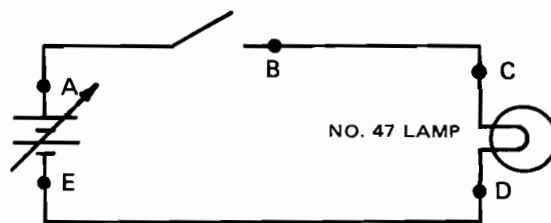

Fig. 4-1-1
1. Select components needed to construct a dc lamp circuit as in Fig. 4-1-1.